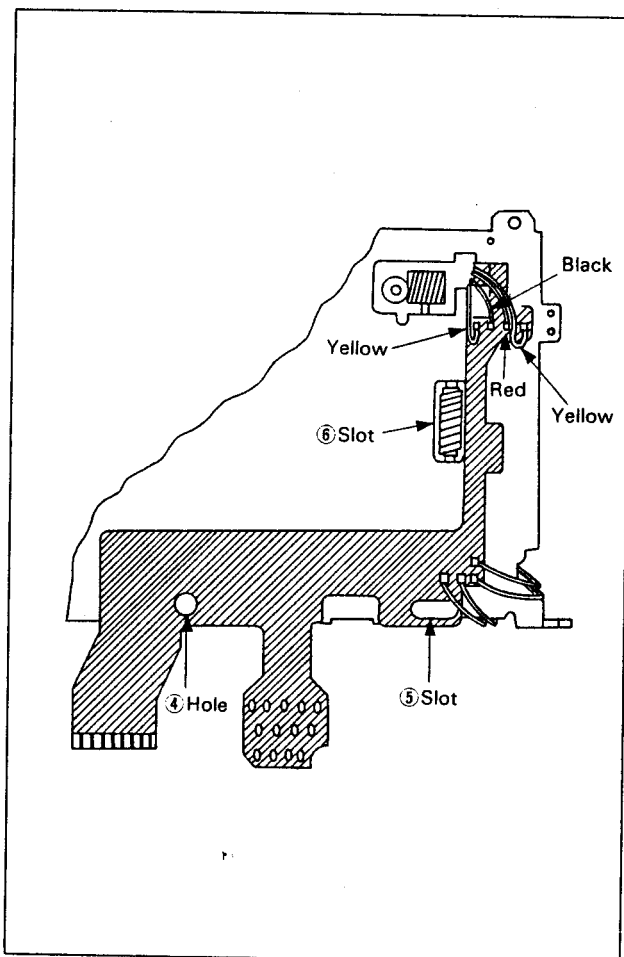

Fig. 2-24.
- 1) Place flexible PC board ① on the main chassis and align with hole ④, slot ⑤ and ⑥.
- 2) Insert PLAY SW ② into flexible PC board ① on the main chassis ; engage dimples and dowels and secure with screw ③ then solder the joints.
- 4) Referring to Fig. 2-24, solder lead wires and dress them.